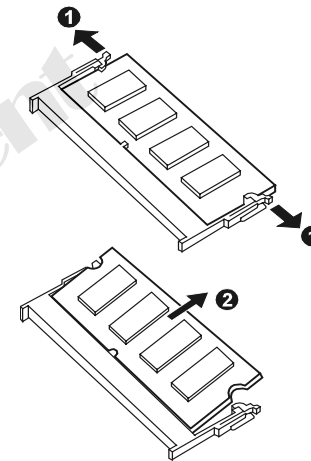

Figure 2-17 Remove the SO-DIMM
3. Pull the retaining clips outwards (❶) and remove the SO-DIMM (❷). (Figure 2-17)